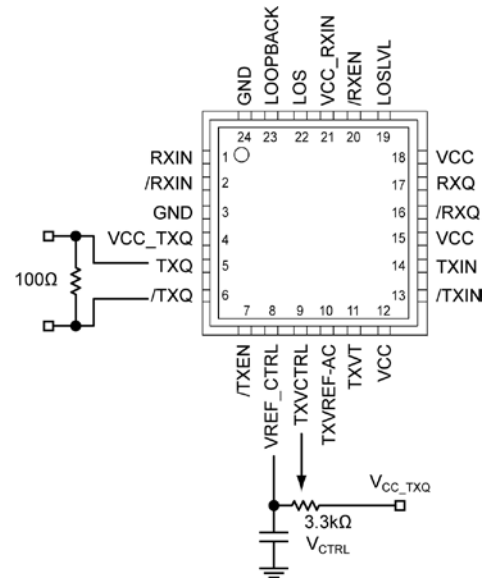

Figure 1b. Alternative Implementation
- Control of the transmitter output buffer swing can be obtained by using a variable resistor connected between VREF\_CTRL and VCC\_TXQ with a wiper connected to TXVCTRL as shown in Figure 1b